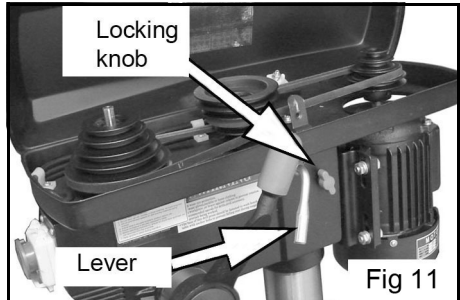

Fig 11
1. Open the cover and slacken the belt tension locking knobs on each side of the machine (Fig 11).